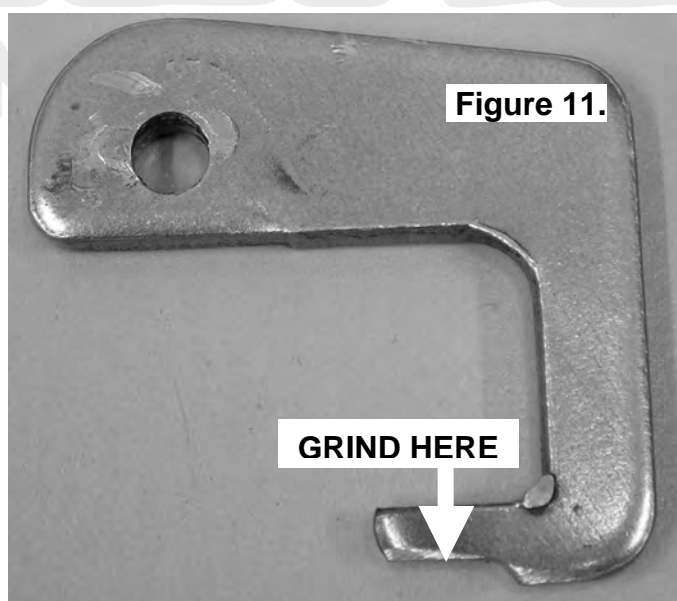

Figure 11.
- It may be necessary to modify the locking tab in order to clear the seal housing by grinding or filing a small flat on the end. (See Fig.11.)